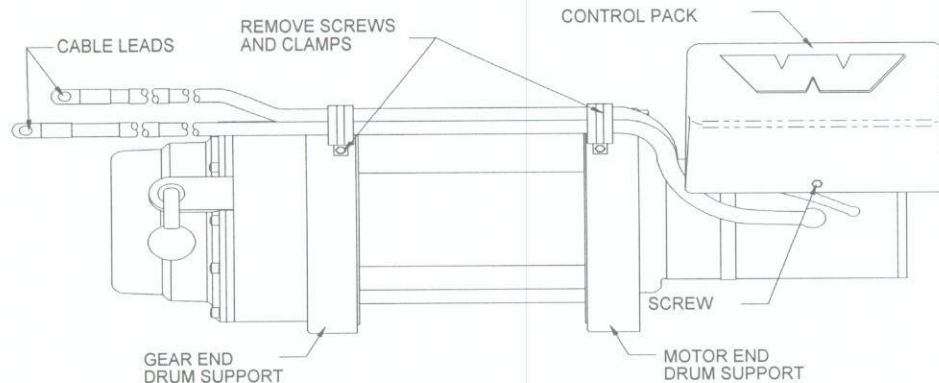

Figure 2.8
1. Remove two screws, clamps and leads 1 and 2 from motor end and gear end drum supports if winch is equipped with this wire routing arrangement (*Figure 2.8*).
16. Coat motor end of winch up to motor end drum support with plastic sealing compound (*Figure 2.8*). **NOTE:** Coating is generally applied by hand with a brush for service. Contact Warn Industrial for coating specifications.
18. Secure lead 1 and 2 to drum supports with two clamps and screws if winch is equipped with this arrangement (*Figure 2.8*).